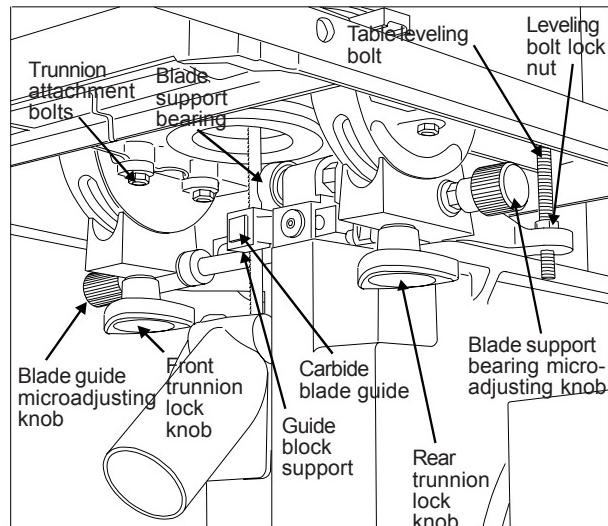

Figure 12. Lower Blade Guide Support
3. If the measurements are not equal at both ends of the slot, loosen six bolts securing the table to the table trunnions (see *Figures 12 and 13*.)
17. Using the micro-adjusting knob, move the lower blade support assembly (*Refer to Figure 12*) forward until the support bearing just contacts the back edge of the saw blade.